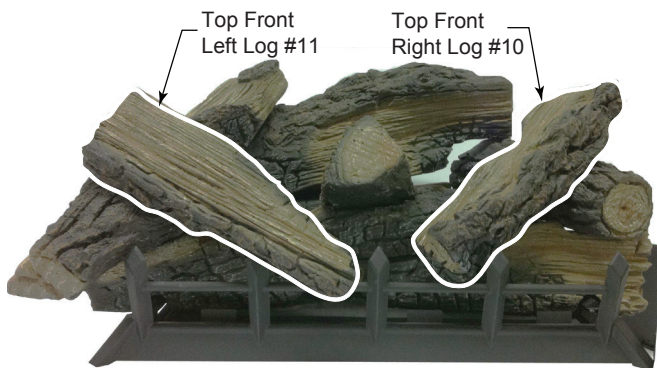

Figure 57
10. Place top front right log (#10) onto mid right log (#6) by placing notch on bottom of log onto locating block on log #6. Rest bottom end of log onto grate bar. Figure 57.
11. Place top front left log (#11) onto mid left log (#8) by placing notch on bottom of log onto locating block on log #8. Rest bottom end of log onto grate bar. Figure 57